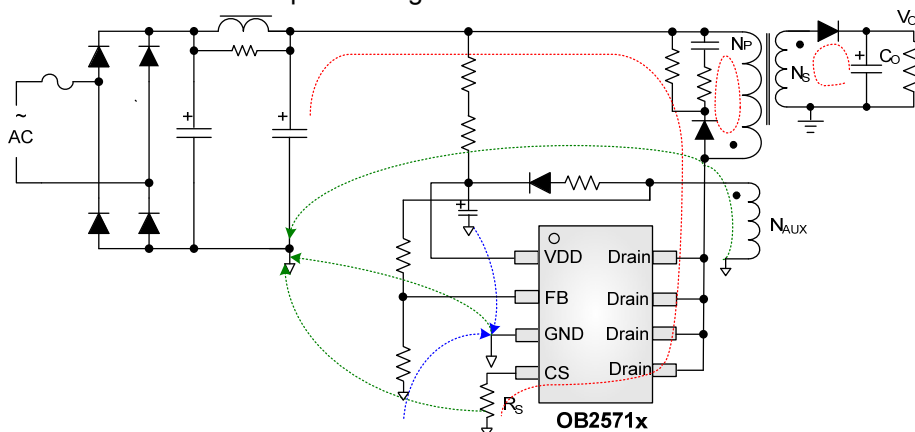

Fig.6 Flyback Schematic with OB2571x
**The Area of Power Loop:** The area of the main current loop should be as small as possible to reduce EMI radiation, such as the primary current loop, the snubber circuit and the secondary rectifying loop (Red wire as shows in Fig.6). Drain pin increases the copper area of the drain terminal for heat dissipation (Green region as shows in Fig.7). And the PCB trace must be wide and short for thermal consideration.
**Bypass Capacitor and FB Divider Resistor:** The bypass capacitor on VDD and the FB divider resistor should be placed as close as possible to pin out. And the negative node of VDD capacitor and the FB down resistor should be connected directly to the IC GND pin before single point connected to the negative node of the output capacitor. (Blue wire as shows in Fig.6)